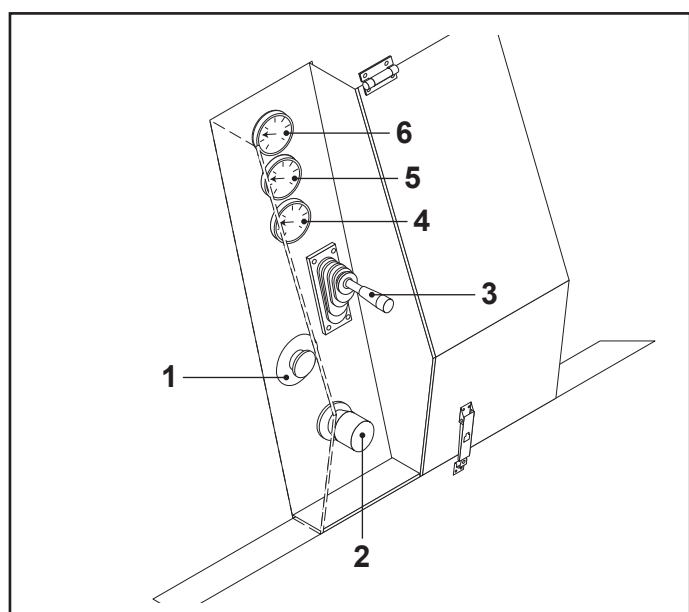

FIG.36
- Check the emergency button (FIG.36-REF.1) is not engaged.
- Rotate the adjustment hand wheel (FIG.36-REF.2) of the hydraulic pump to reach a value of 6 - 10 pumping/minute.
- Switch on the water pump by lever on the control panel. The pressure gauge (FIG. 36-REF. 6) shows the pressure in the water-jet cleaner (i.e., 100-120 bar).